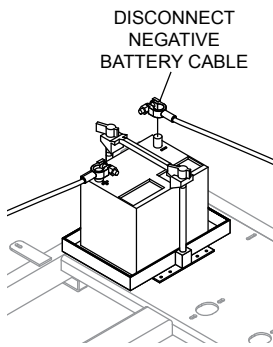

Figure 6. Disconnecting Battery
1. For LT12D light towers, disconnect the negative cable (black) from battery. See Figure 6.